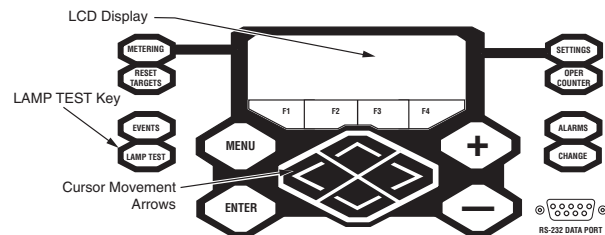

Figure 33. Lamp Test button, LCD display, and cursor movement arrows
1. Verify operating status of all indicator lights by pressing the LAMP TEST key on the programming panel (**Figure 33**).
Note: Scroll through the LCD display messages by pressing the ▲ and ▼ cursor movement arrows underneath the LCD display on the programming panel (**Figure 33**).